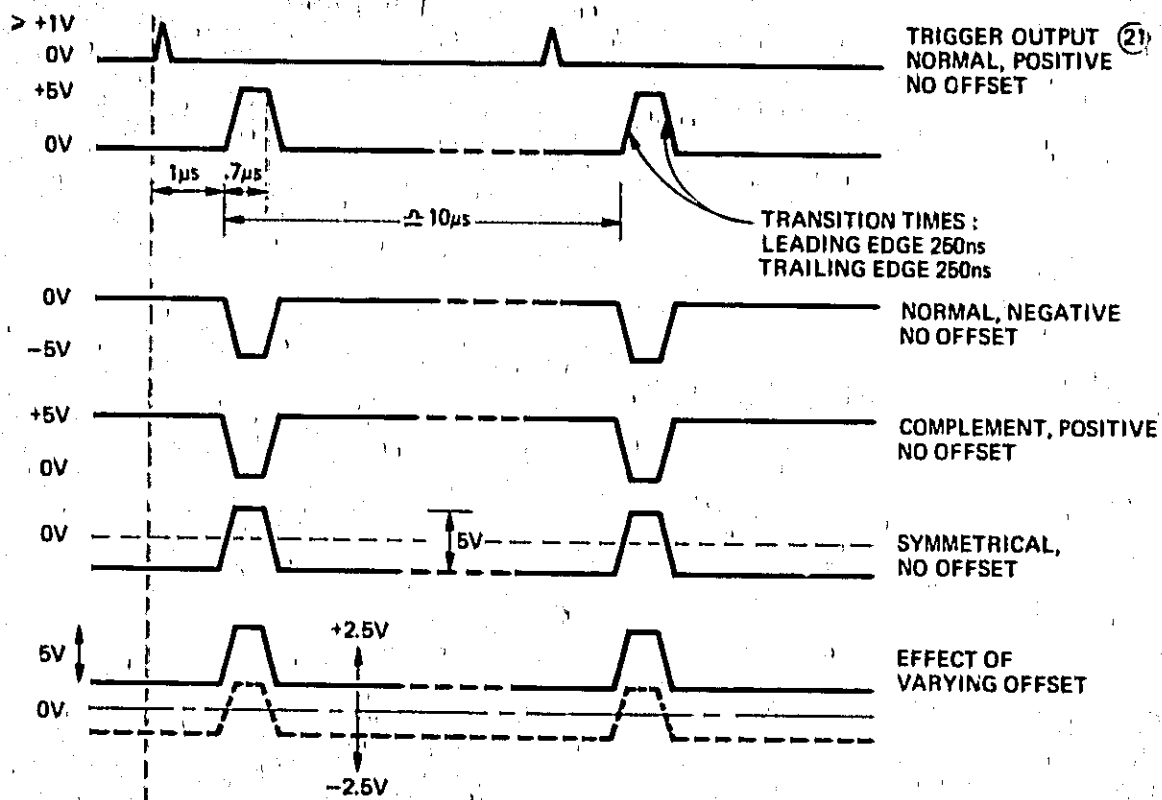

Figure 3-8. Output pulses in normal internal trigger mode
3-17 The output pulses should appear at the OUTPUT (16) connector as shown in Figure 3-8 according to the settings of the POLARITY switch (14) and the SYM/NORM/COMPL switch (17).